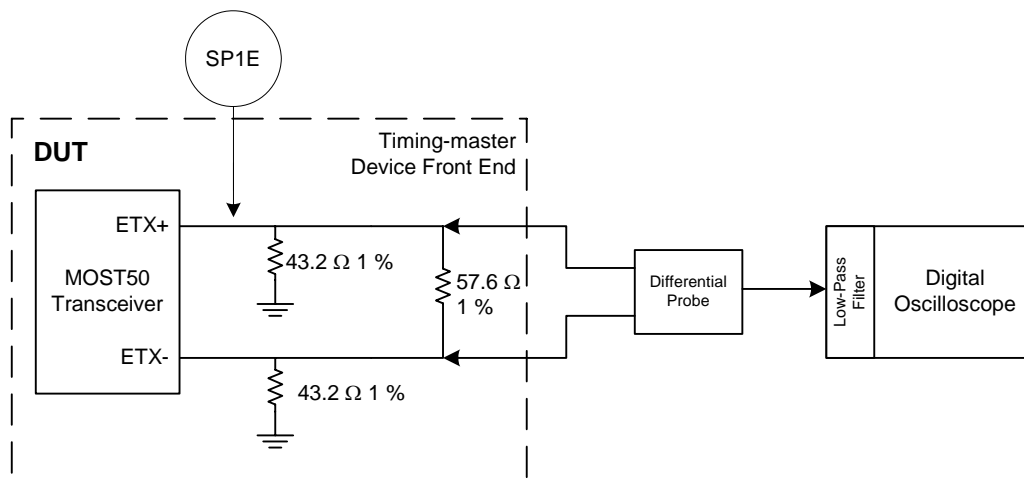
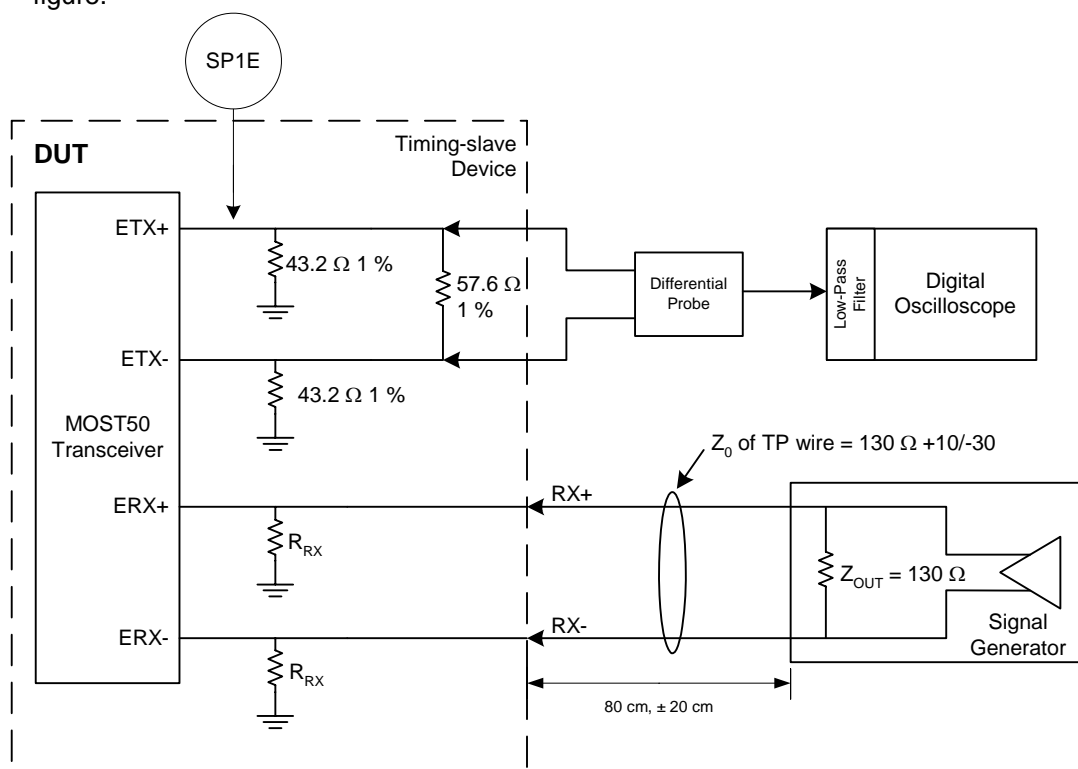

Figure A-4: NIC Transferred Jitter Test Setup (Timing-master mode)
Figure A-5: NIC Transferred Jitter Test Setup (Timing-slave mode)
Diagrams showing the test setup used to capture an eye diagram for NIC Transferred Jitter are shown in Figure A-4 and Figure A-5. This specification point should be tested with the device under test in both of the following configurations:
Use the setup shown in Figure A-4 when testing a DUT in Timing-master mode. The ETX+ and ETX- outputs of the device are terminated into a resistive load as shown in the figure.
- Use the setup shown in Figure A-5 when testing a DUT in Timing-slave mode. The DUT is placed in node position 1 and locked to a reference signal from the Signal Generator. The ETX+ and ETX- outputs of the device are terminated into a resistive load as shown in the figure.
- Configure the system as shown in either Figure A-4 or Figure A-5, depending upon the type of DUT submitted for testing.